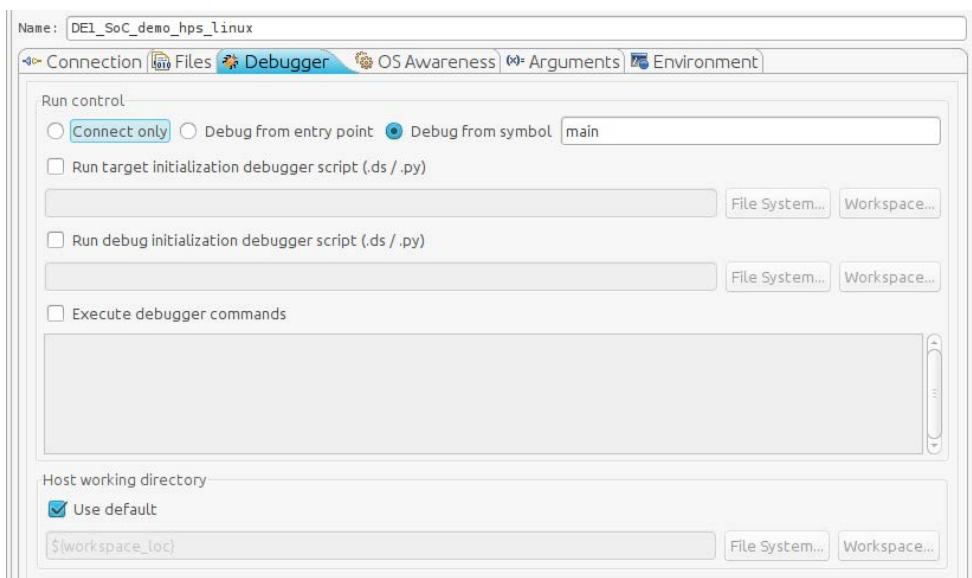

Figure 8-53. Debug Configuration "Debugger" Tab
- Under the "Debugger" tab, make sure that "Debug from symbol" is selected and that "main" is the name of the symbol, as shown in Figure 8-53.